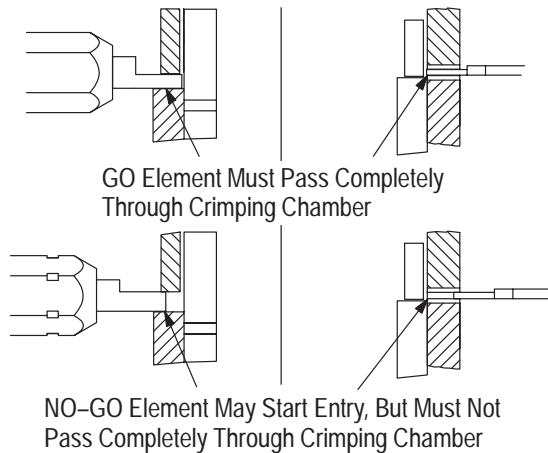

Figure 5
This inspection requires the use of plug gages conforming to the dimensions provided in Figure 5. Tyco Electronics does not manufacture or market these gages. To gage the crimping chamber, proceed as follows:
The GO element must pass completely through the crimping chamber. See Figure 5.
4. Align the NO-GO element and try to insert it straight into the same crimping chamber. The NO-GO element may start entry, but must not pass completely through the crimping chamber. See Figure 5.
- Changed wire size range from 22-16 to 22-18 in table in Figure 5